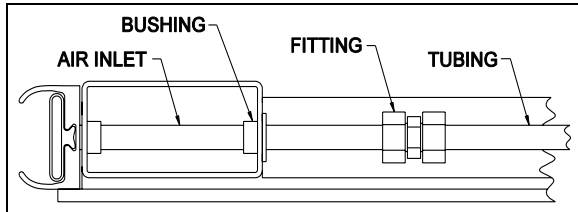

FIGURE 31: REAR SLIDE-OUT INFLATABLE SEAL AIR INLET
2. Unplug the tubing from the inflatable seal air inlet (FIGURE 31). Keep the bushing.
9. Replace the bushing and plug the pneumatic tubing on the inflatable seal air inlet (FIGURE 31).